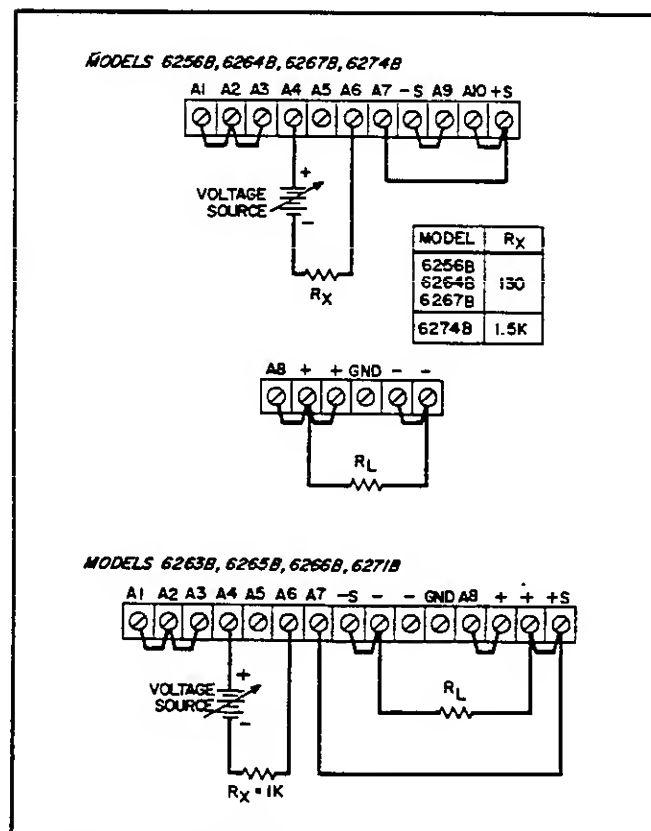

Figure 3-7. Voltage Programming of Output Current
**3-42 Constant Current Output, Voltage Input.** The rear panel connections shown in Figure 3-7 allow the output current to be varied by using an external voltage source to program the supply. The constant current programming